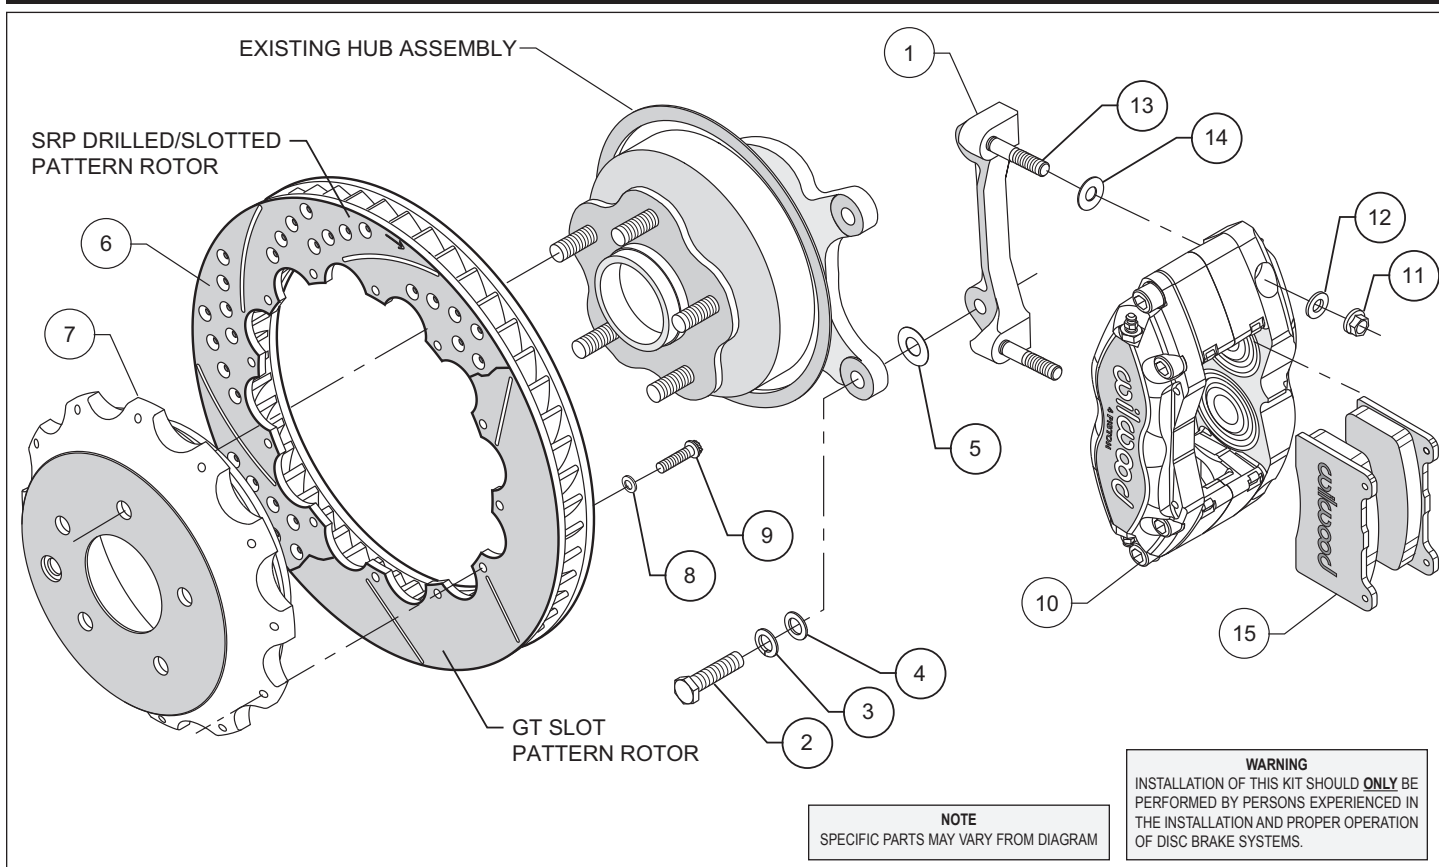
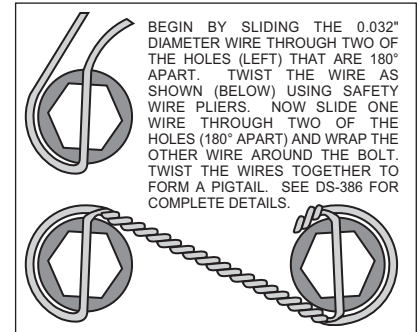

Figure 1. Typical Installation Configuration
Figure 3. Safety Wire Diagram
- The caliper mount bracket assembly (1) should be installed first with clean, dry threads on the mounting bolts. Install the bracket from the rear side of the hub by sliding bolt (2) through lock washer (3), flat washer (4), and through the OEM caliper mounting bracket ears, then through shim washer (5) and into the bracket (1). The bracket must tighten squarely against the inboard side of the caliper mount bosses on the upright. Inspect for interference from casting irregularities, machining ridges, burrs, etc. Use one thin shim (5) between the bracket and upright during initial trial fitting. Later, after the caliper, pad, and rotor alignment has been checked, and any necessary shims have been put in place, the mounting bolts should be coated with red *Loctite*[®] 271 and torqued to 65 ft-lbs.
- Assemble the rotor (6) to the hat (7) with the bolts (9) and washers (8) as indicated in the configuration pictured in Figure 1. Be sure all bolts thread in smoothly and are snug. Then, torque all bolts in an alternating sequence to 85 **in-lbs**. The rotor mounting bolts (9) must be lockwired using standard 0.032 inch diameter stainless steel safety wire as shown in Figure 3. Please refer to Wilwood's data sheet DS-386 (available at www.wilwood.com/pdf/ds386.pdf) for complete safety wire installation instructions.